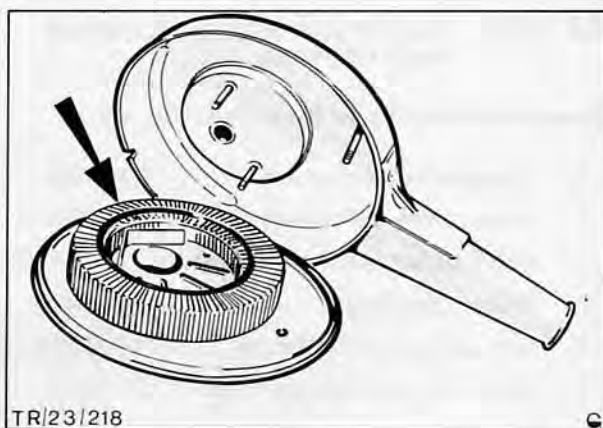

Fig. 37. Air cleaner element removal
4. Remove three bolts, split cleaner into two sections, and remove element, Fig. 37.